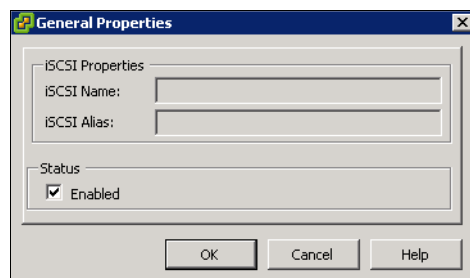

Figure 4-15 VMware: Select the Enabled check box
9. Select the **Enabled** check box and click **OK** (Figure 4-15).